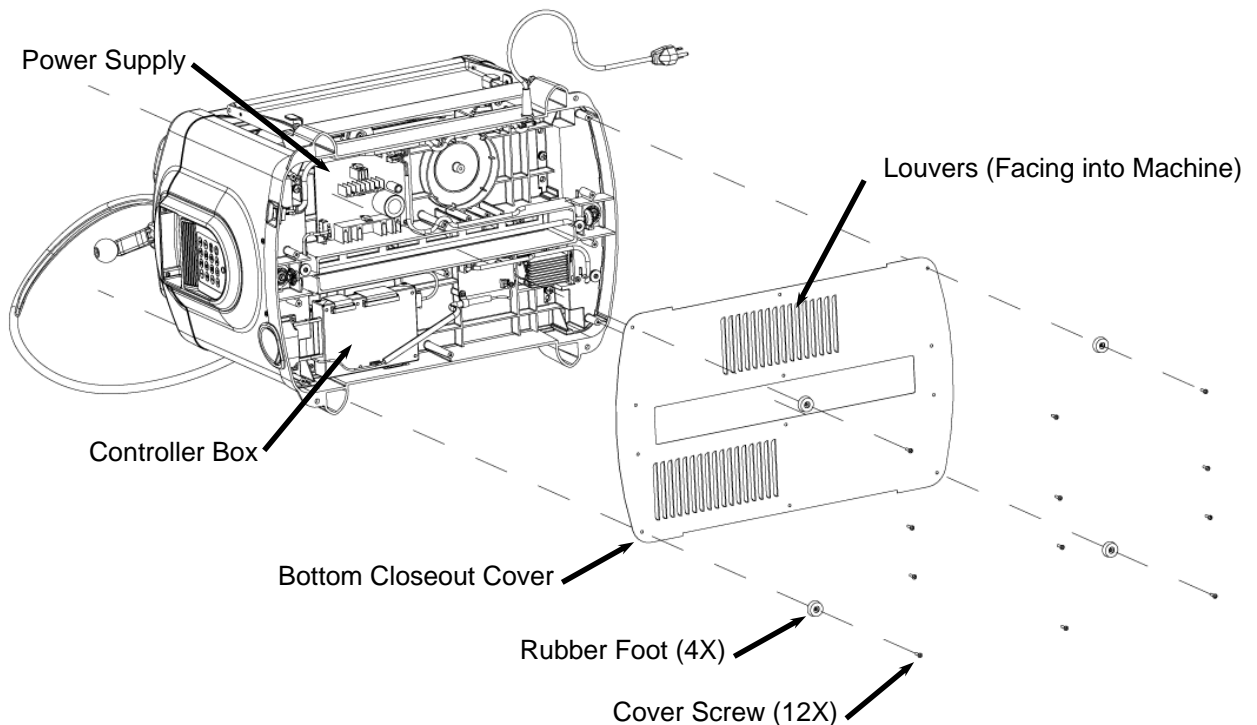

FIGURE 37: REMOVAL OF THE BOTTOM COVER
1. **Replace the bottom cover.** Replace the metal cover with the louvers pointing into the machine (see Figure 37). Insert and tighten the 12 screws. The four rubber feet are placed at the corners of the machine.